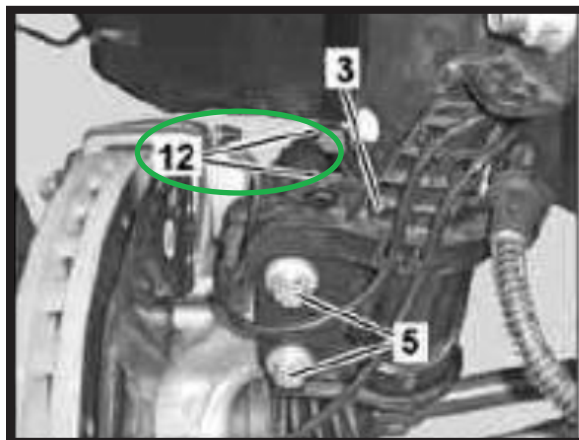

FIGURE 5 - #12
7. CUT THE CABLE TIE FROM THE SHOCK AND UNCLIP THE LINE BRACKET. (FIGURE 5 - #12)